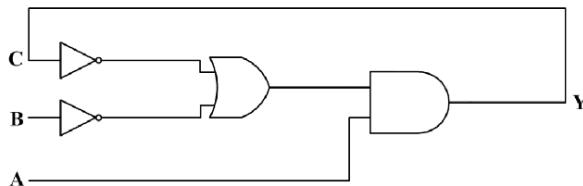

Fig. 6.12: Image
8. For the given digital circuit in Fig. 6.12, $A = B = 1$. Assume that AND, OR, and NOT gates have propagation delays of 10ns, 10ns, and 5ns respectively. All lines have zero propagation delay. Given that $C = 1$ when the circuit is turned on, the frequency of steady-state oscillation of the output Y is _____. (GATE IN 2023)